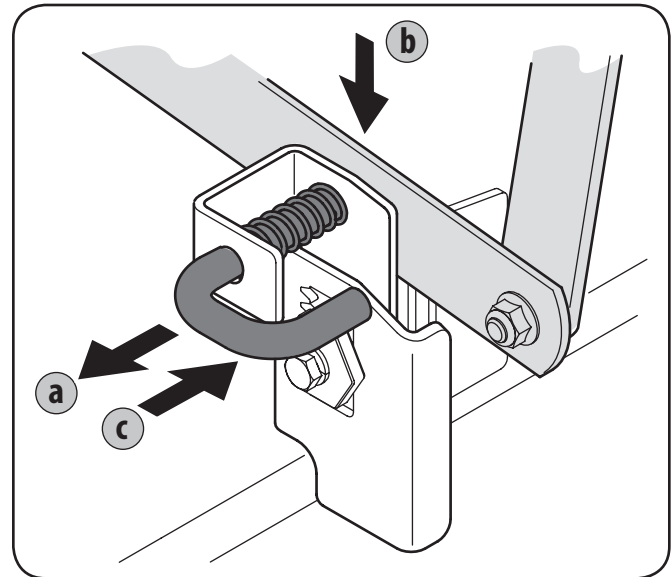

Figure 2-2
5. Locate the deck support pin found on the left bracket and pull it outward. Align it with the hole in the lift link before releasing it to secure the pin in place. Repeat on the right side of the deck. See Fig. 2-2.